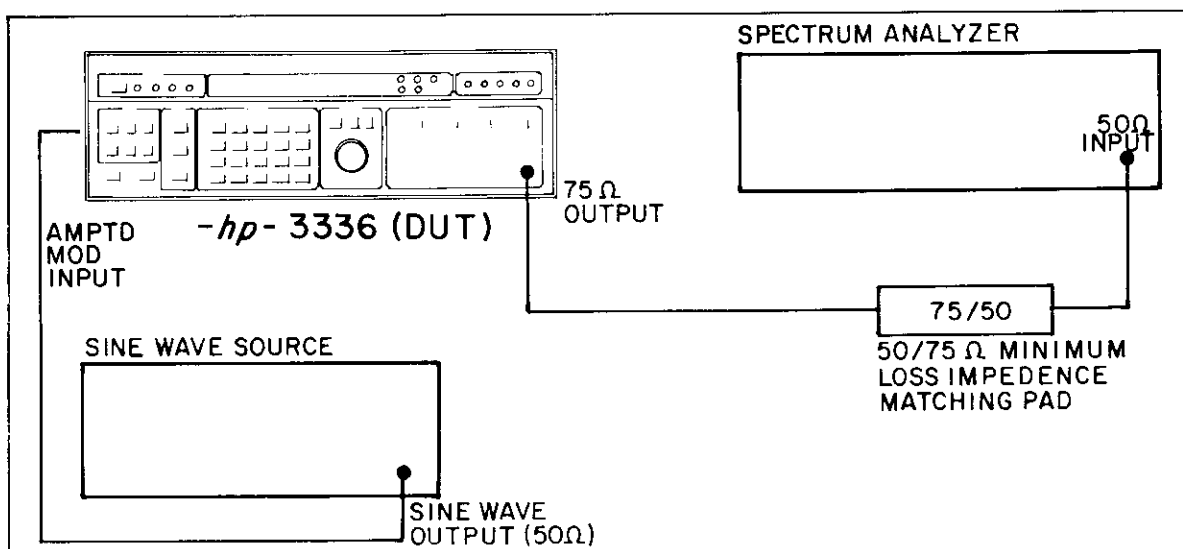

Figure 4-11. Amplitude Modulation Envelope Distortion Equipment Set Up.
a. Connect the equipment as shown in Figure 4-11.